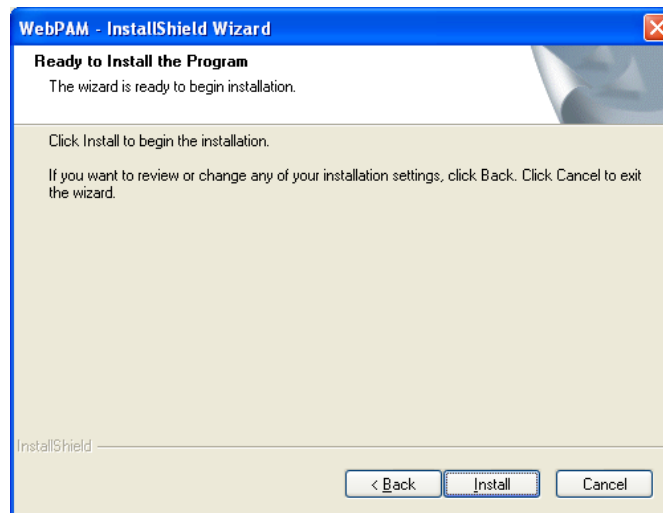

Figure 7-34: WebPAM Ready to Install
Step 15: The Ready to Install Program screen in **Figure 7-34** appears.